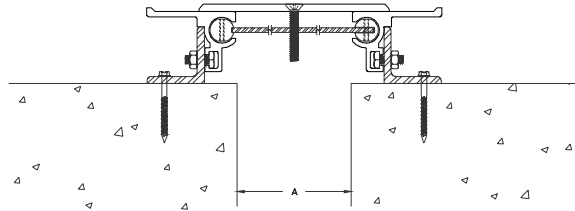

Figure 7
**STEP 11.** Hand tighten the centering bar screws until the cover plate is held firmly in position (see Figure 7). Do Not Overtighten The Centering Bar Screws. Repeat Step 8 through Step 11 for each subsequent section of the center plate.